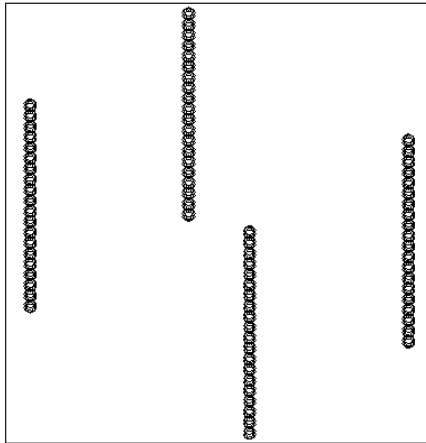

Figure 24-26: The four legs of a table, created by using a 3D rectangular array
5. Save your drawing. It should look like Figure 24-26.